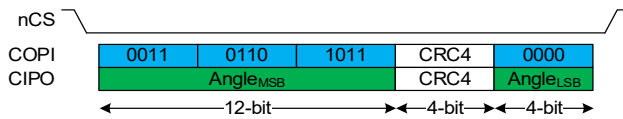

Figure 17: 20 Clock Cycles Read Angle
- 16-bit angle read in 20 clock cycles (Figure 17). In this case, though, the 4-bit Angle_LSB is not protected by CRC and an eventual communication error will not be detected.